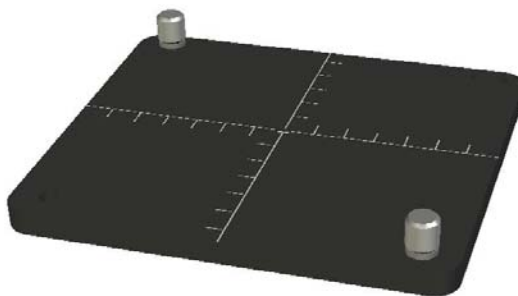

Fig 6: Angled View of Microspecular Reflection Top Plate 10514
- 1 Microspecular reflection top plate (Fig 6)